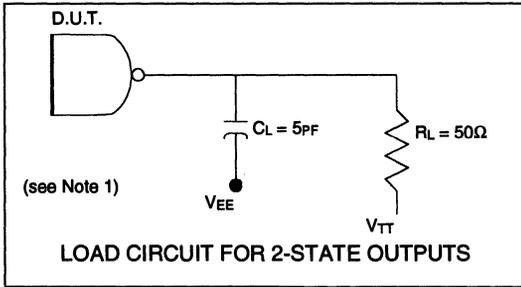

Figure 10
1. Standard ECL load circuit used for macro specification see Figure 10.